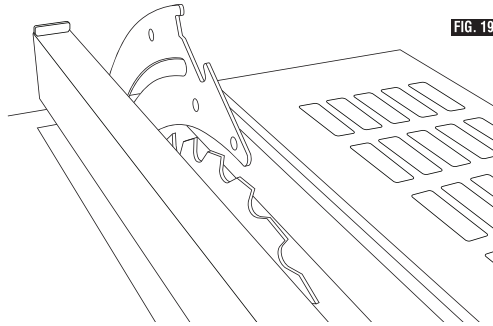

FIG. 19
3. Place the rip fence on the left side of the table. Carefully move the rip fence against the blade so that the rip fence is parallel to the blade and just touches the tips of the saw teeth. Lock the rip fence and make sure the blade at the front and back is still touching the rip fence (Fig 19).